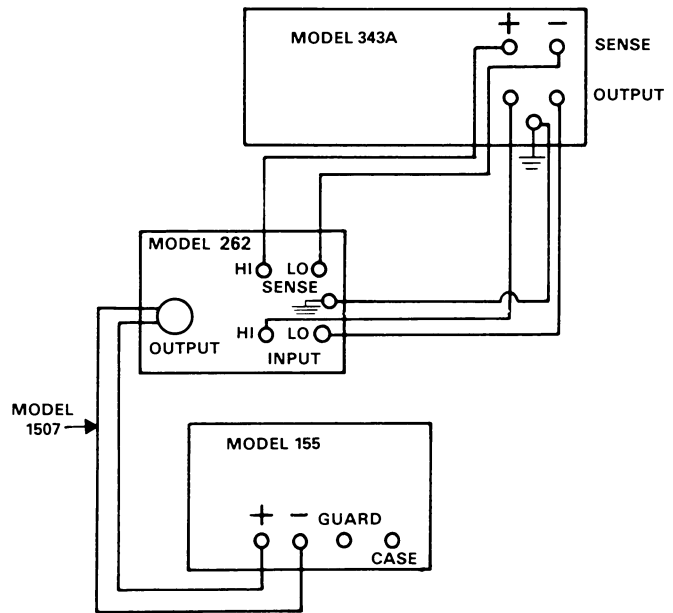

Figure 4-4. Rise Time Test Circuit
- Set up the test circuit shown in Figure 4-4.